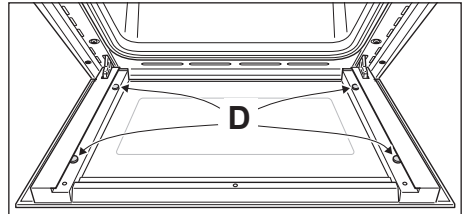

Fig. 6.15a
- Check that the four rubber pads are in place (“D” in fig. 6.15a).